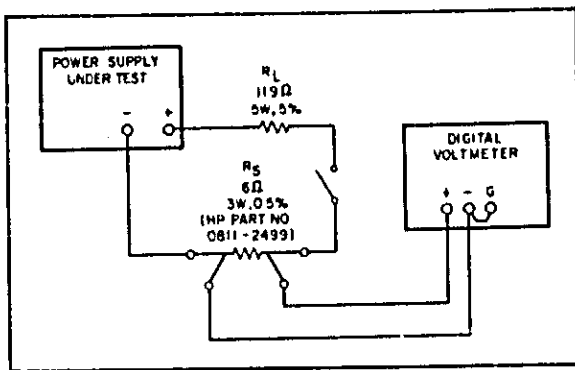

Figure 5-3. Output Current, Test Setup
- a. Connect the test setup shown in Figure 5-3 to the V_1 supply's + and - output terminals.
- b. Connect test setup shown in Figure 5-3 to the V_1 supply's + and - output terminals. Substitute a short for R_L and leave load switch open.
- Connect the test circuit of Figure 5-3 to the output of the supply to be adjusted. Substitute a short for R_1 and leave load circuit switch open.
- Connect the test setup of Figure 5-3 to the V_1 supply's + and - output terminals.